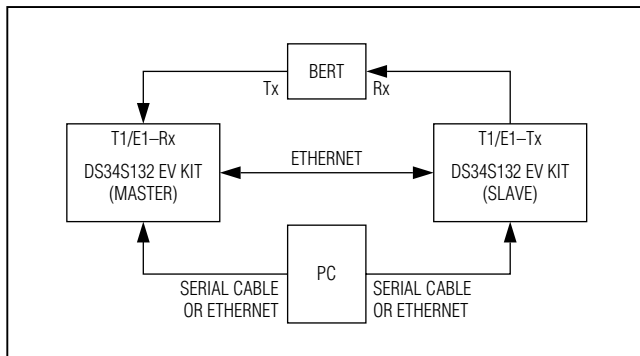

Figure 1-2. Quick Start Connections
- 1) Connect cables as shown in Figure 1-2.